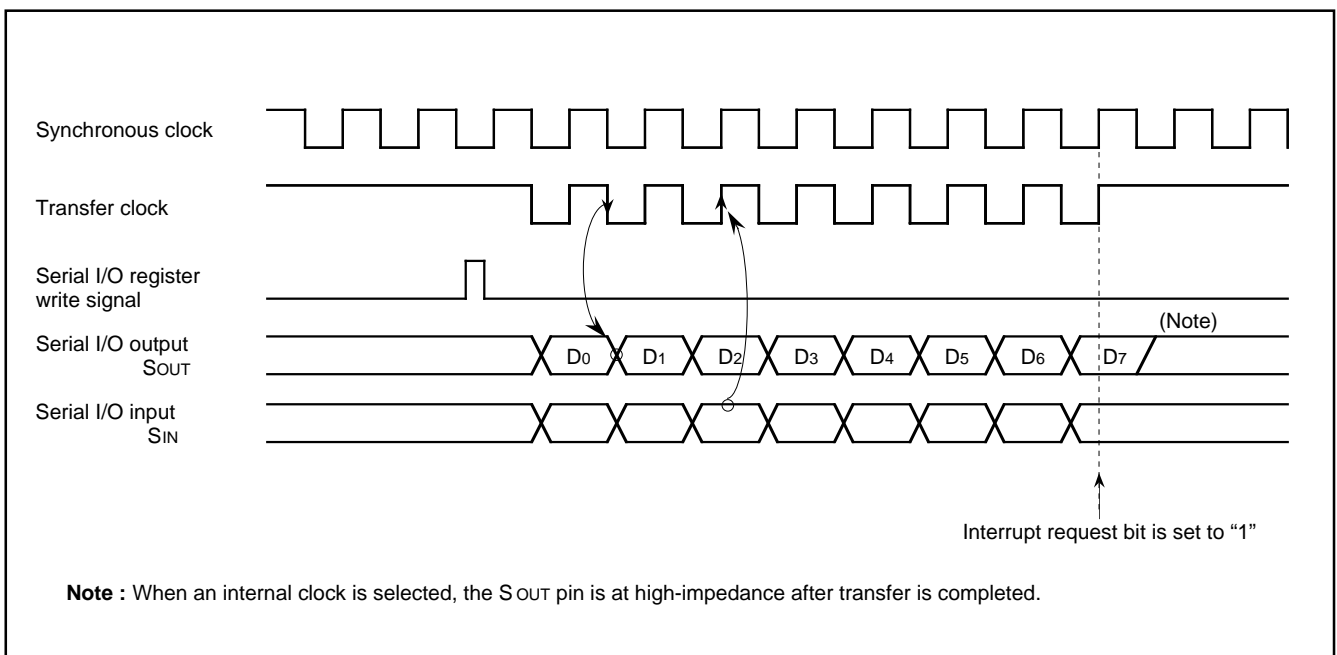
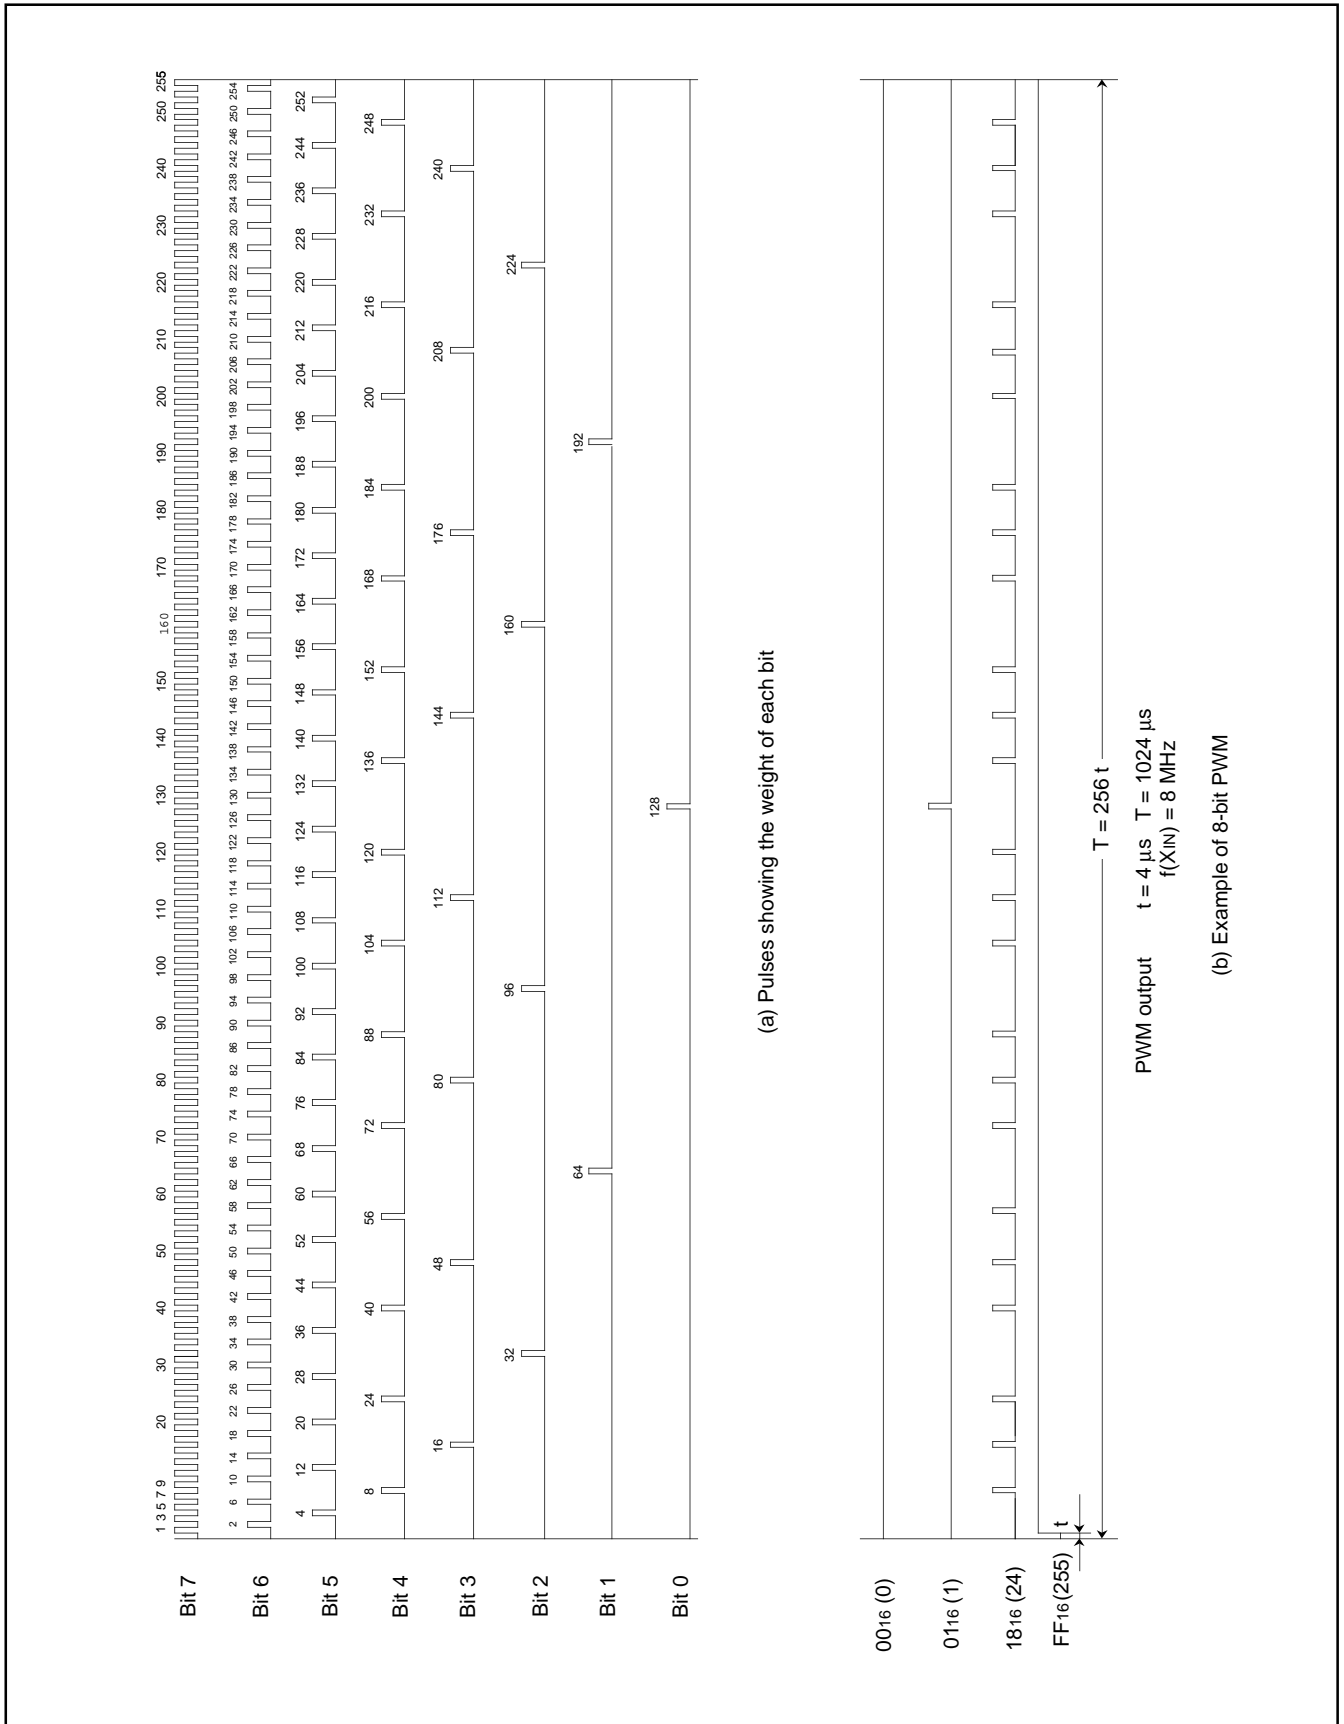

Fig. 20. Serial I/O Timing (for LSB first)
Fig. 23. 8-bit PWM Timing
**External clock :** The an external clock is selected as the clock source, the interrupt request is set to "1" after the transfer clock has been counted 8 counts. However, transfer operation does not stop, so the clock should be controlled externally. Use the external clock of 500kHz or less with a duty cycle of 50%. The serial I/O timing is shown in Figure 20. When using an external clock for transfer, the external clock must be held at HIGH for initializing the serial I/O counter. When switching between an internal clock and an external clock, do not switch during transfer. Also, be sure to initialize the serial I/O counter after switching.
Figure 23 shows the 8-bit PWM timing. One cycle (T) is composed of  $256 (2^8)$  segments. The 8 kinds of pulses, relative to the weight of each bit (bits 0 to 7), are output inside the circuit during 1 cycle. Refer to Figure 20 (a). The 8-bit PWM outputs waveform which is the logical sum (OR) of pulses corresponding to the contents of bits 0 to 7 of the 8-bit PWM register. Several examples are shown in Figure 23 (b). 256 kinds of output (HIGH area:  $0/256$  to  $255/256$ ) are selected by changing the contents of the PWM register. A length of entirely HIGH cannot be output, i.e.  $256/256$ .
The output example of the 14-bit PWM is shown in Figure 23.